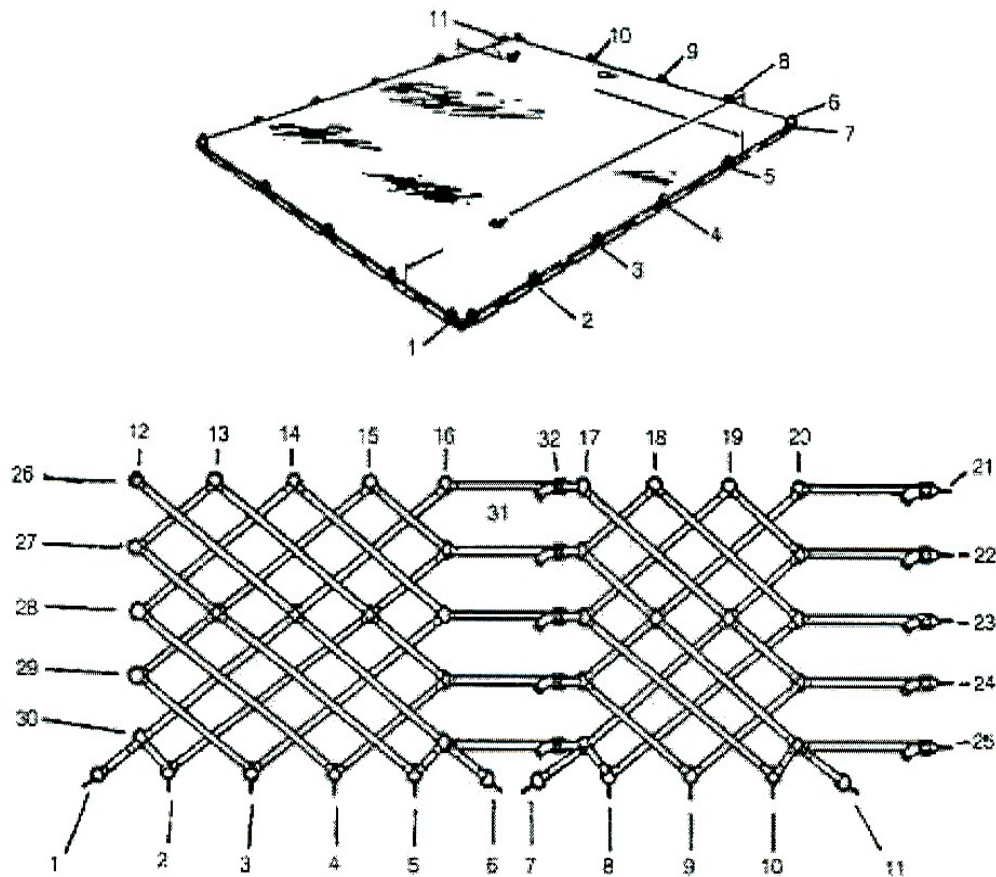

Figure 3-11
e. Begin with the left ring-side of the 463L pallet and work from left to right. Attach hook #1 on the side of the net to ring #1 on the pallet (see Figure 3-11).